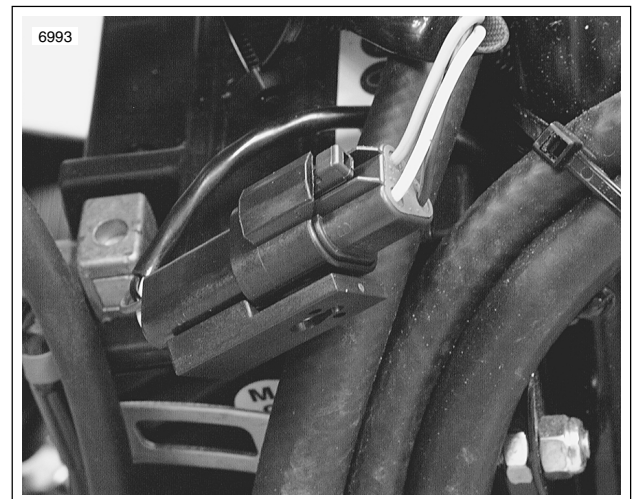

Figure 7-86. Speedometer Sensor Connector
1. See Figure 7-86. Locate the 3-place Deutsch connector [11] for the speedometer sensor above battery negative (-) terminal and disconnect.
1. See Figure 7-86. Disconnect speedometer sensor connector. Attach speedometer tester connector to speedometer sensor connector.